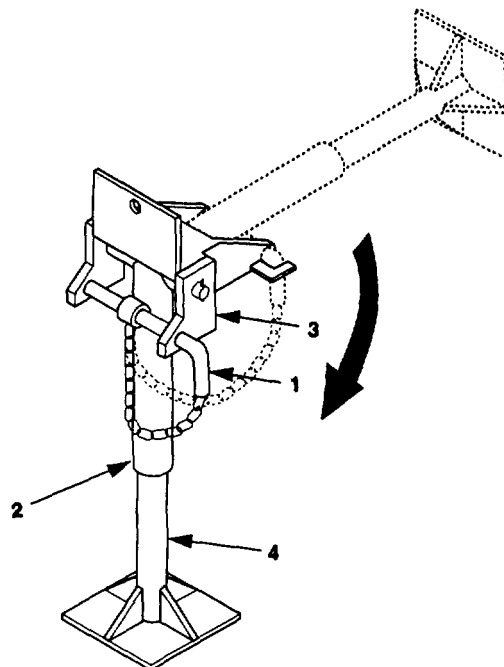

Figure 2-5. Rear Leveling-Support Jack.
- e. Pull out pin (1, figure 2-5) that secures rear leveling-support jack (2) in travel position.